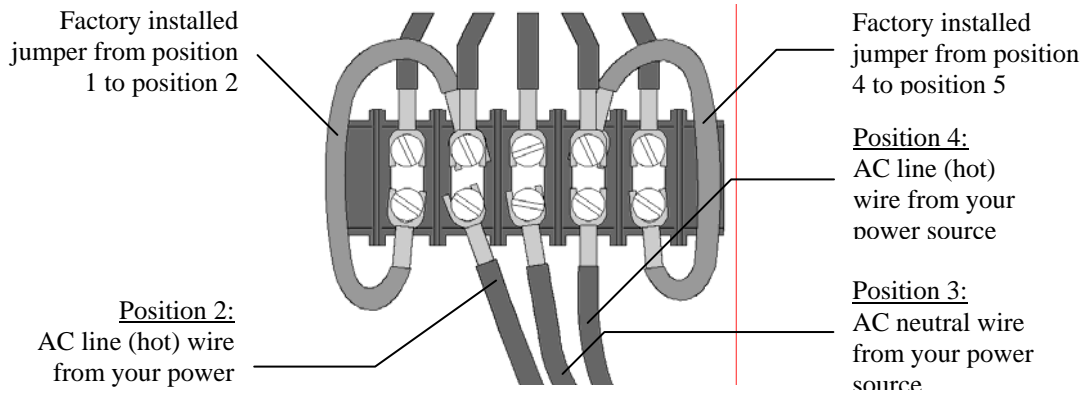

Figure 8 240 VAC Connections
4. If you are going to connect the scoreboard to a 240 VAC supply, connect one AC line wire to position 2, AC neutral wire to position 3, and the other AC line wire to position 4 of terminal strip T4 on the junction chassis according to figure 8.